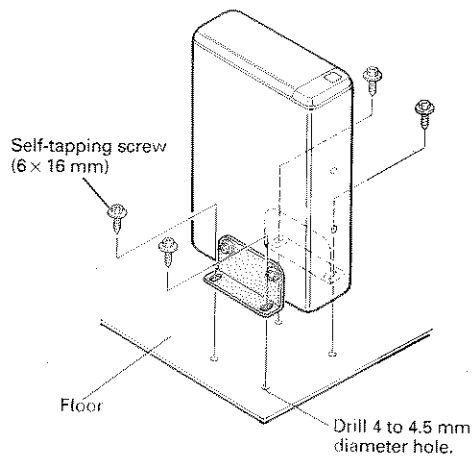

Fig. 9
2. Mount the player on the floor with the self-tapping screws (6 × 16 mm). (Fig. 9)